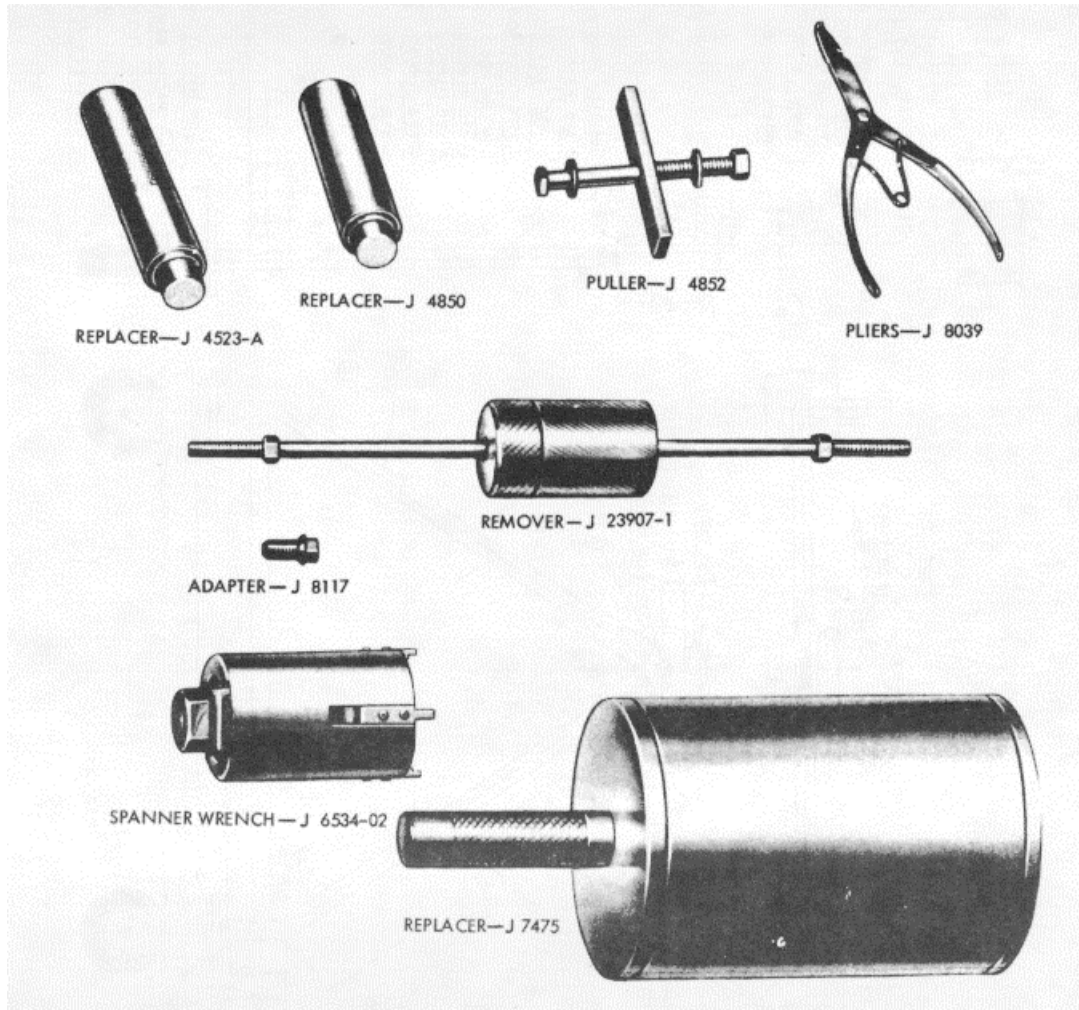

Fig. 1 Special Tools For Torqmatic Converter Overhaul
- (1) Equipment Needed. Proper equipment should be available before overhaul is started a suitable hoist, proper hand tools, receptacles for small parts, an arbor press, and a converter teardown stand. Although convenient, the latter two are not necessary.
- (2) Special Tools. Paragraph 74.6 has a chart listing special tools and their part numbers, their use, and references to the figures and paragraphs where they are used. Special tools for the Allison torque converter are available through the Kent-Moore Tool Division, 1501 5S. Jackson St., Jackson, Michigan 49203. Refer to Fig. 1 for these tools. Refer to Fig. 2 through 5 for other special tools that can be fabricated locally.